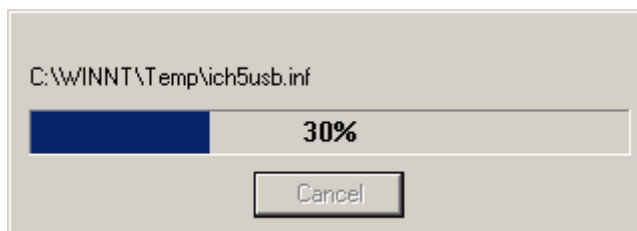

Figure 6-13: Installing Chipset Driver
Step 6: Read the Readme file information. Click NEXT and the chipset driver is installed (Figure 6-13).